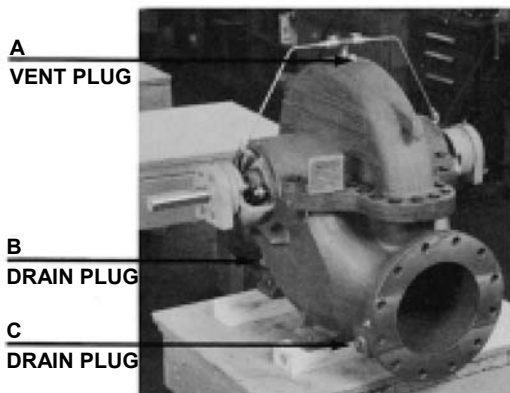

FIGURE 18 – PUMP WITH PACKING
1. Drain the pump by opening vent plug (A, Figure 18) and remove drain plugs (B and C) on the suction and discharge nozzles.